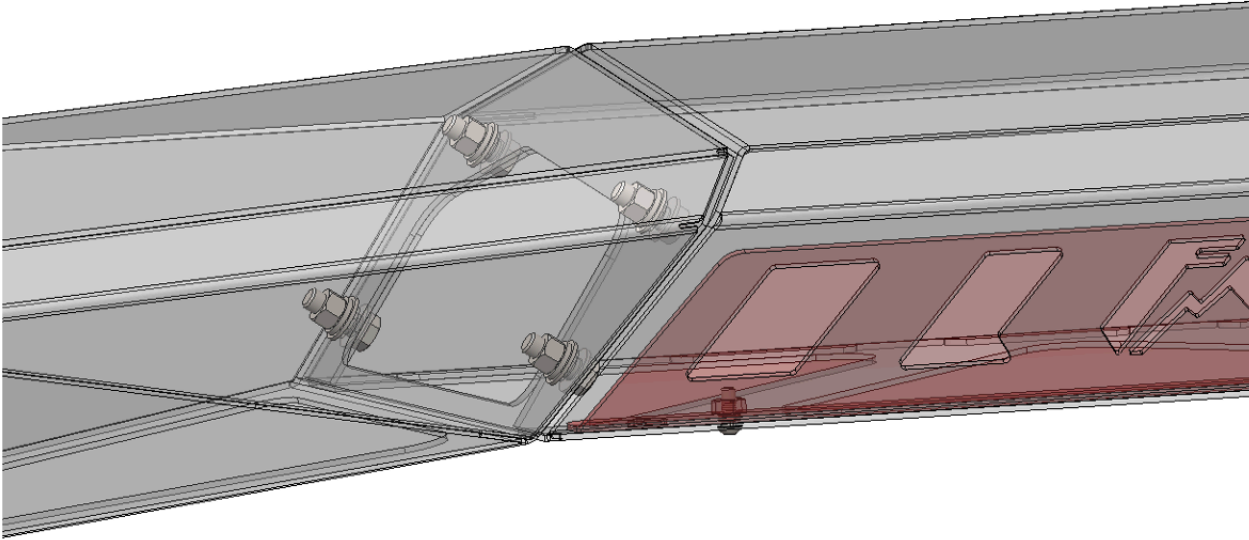

Figure 25
27. Install the center riser (22781) with eight (8) 3/8" hex head bolts, flat/lock washers and nuts. Figure 25.